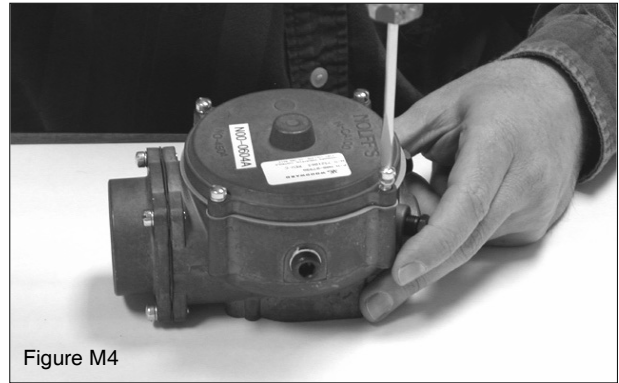

Figure M4
1. With the mixer/adaptor assembly removed from the engine, and the throttle adapter removed from the mixer, remove the four cover retaining screws from the top of the mixer (Figure M4).